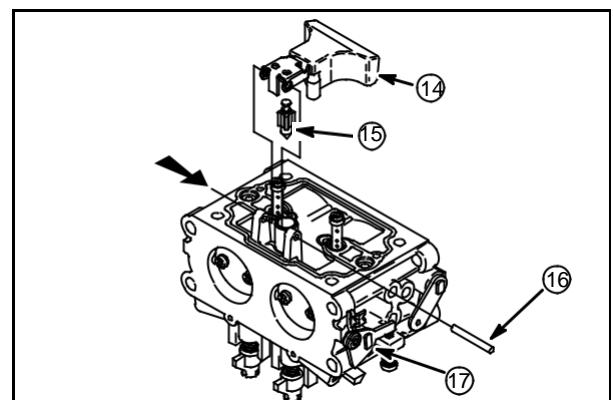

Fig. 64
Drive out float hinge pin (16) from side OPPOSITE throttle lever (17). Remove float (14) and fuel inlet needle (15) assembly, **Fig. 64**.